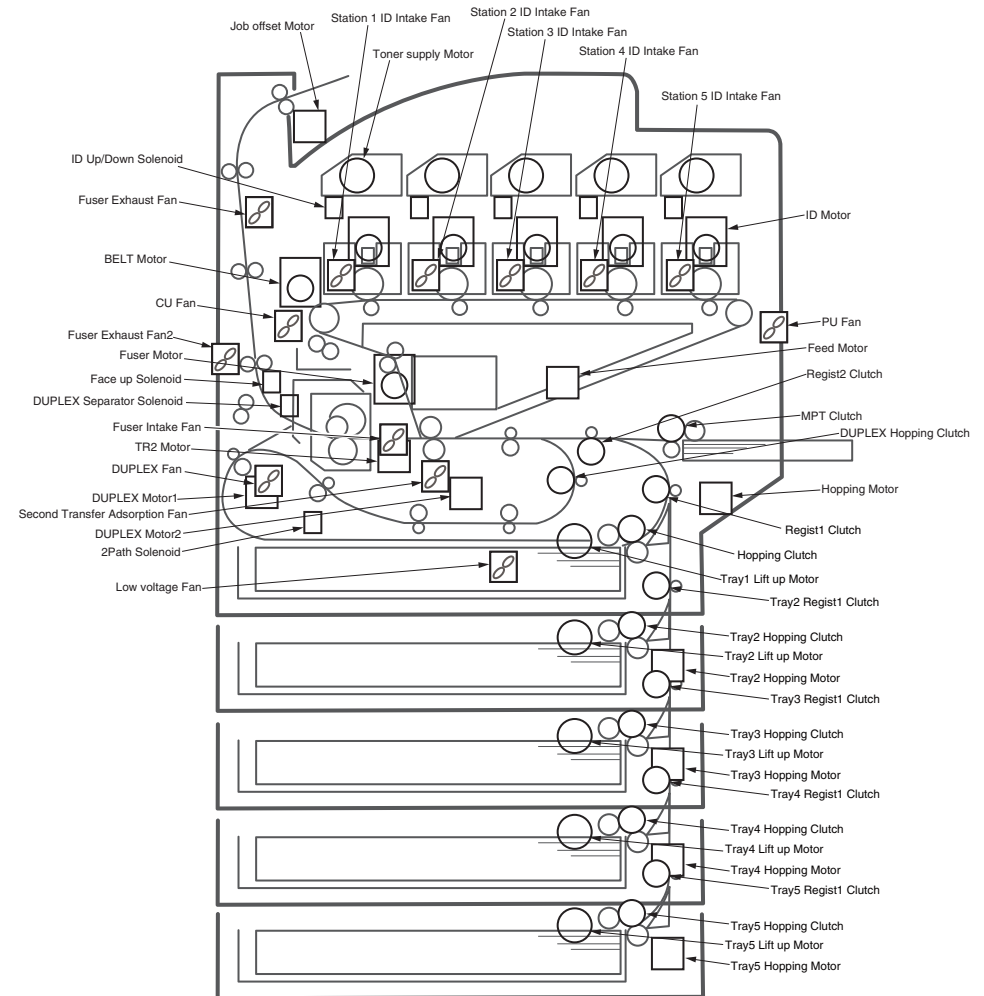

Figure 5-2
3. Press the **OK** button. The motor and clutch test starts, the unit's the name and current status starting to blink, and the unit being driven for ten seconds (refer to figure 5-2).